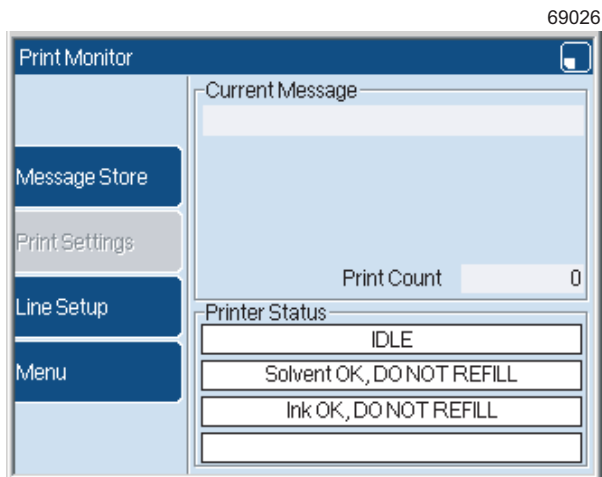

Figure 2-2. Print Monitor page
- When the printer completes the power-up sequence, the **Print Monitor** page is displayed, as shown in Figure 2-2.
The soft key names on the **Print Monitor** page are dimmed for options that are not available. For example, you cannot use the **Print Settings** key if there is no Current Message, as shown in Figure 2-2.